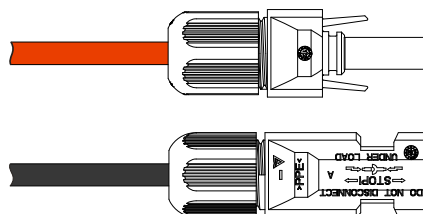

Figure3-38 Tighten the lock nut
- Step 4 Screw and tighten the locking nuts of the positive and negative connectors to corresponding insulating shells, as shown in Figure 3-38.